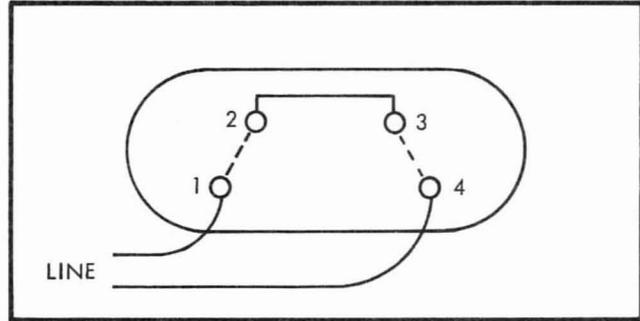

Figure 4-2. 230-VOLT CONVERSION
- c. Remove the bare jumper wires connecting terminals 1 to terminal 2 and terminal 3 to terminal 4. (Shown by dashed lines in Figure 4-2.)
- d. Cut a length of number 20 copper wire to form a jumper to connect terminal 2 to terminal 3. (Shown by a solid line in Figure 4-2.)